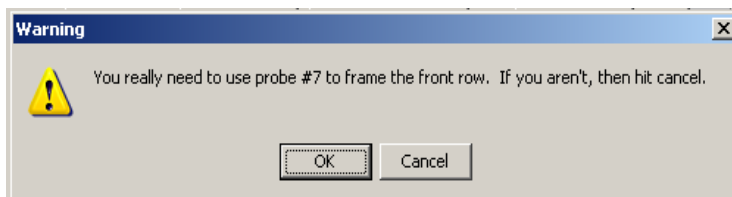

Figure 4. Warning about the proper probe to use.
- 2.8 A window will pop up warning the user to use probe #7 for the deck framing at this position (Figure 4). After checking that probe #7 is being used, click OK.